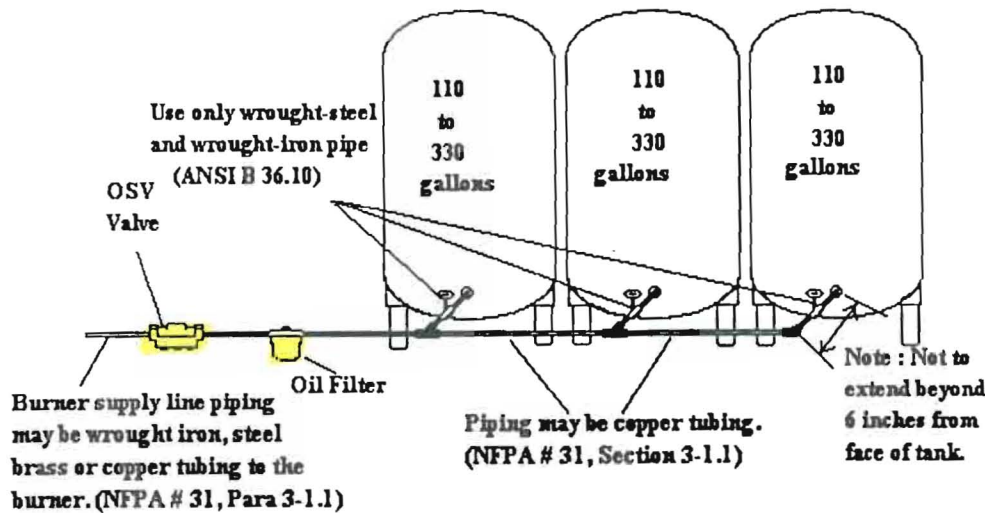

Figure 13 (b) Piping for three tank oil supply arrangement
9-13.3.2 Inside oil supply tanks in excess of 660 gallons and not more than 990 gallons aggregate capacity, may be installed to more than one oil burning appliance when installed in accordance with Figure 13(e). Only three tanks with an aggregate capacity of 990 gallons or less shall be attached as in Figure 13(e). Single tank installations in excess of 660 gallons shall comply with NFPA #31. The three tanks used shall be of equal size only, such as three (3) 330 gallon tanks, or three (3) 275 gallon tanks. See Figure 13(c), (d), and (e).